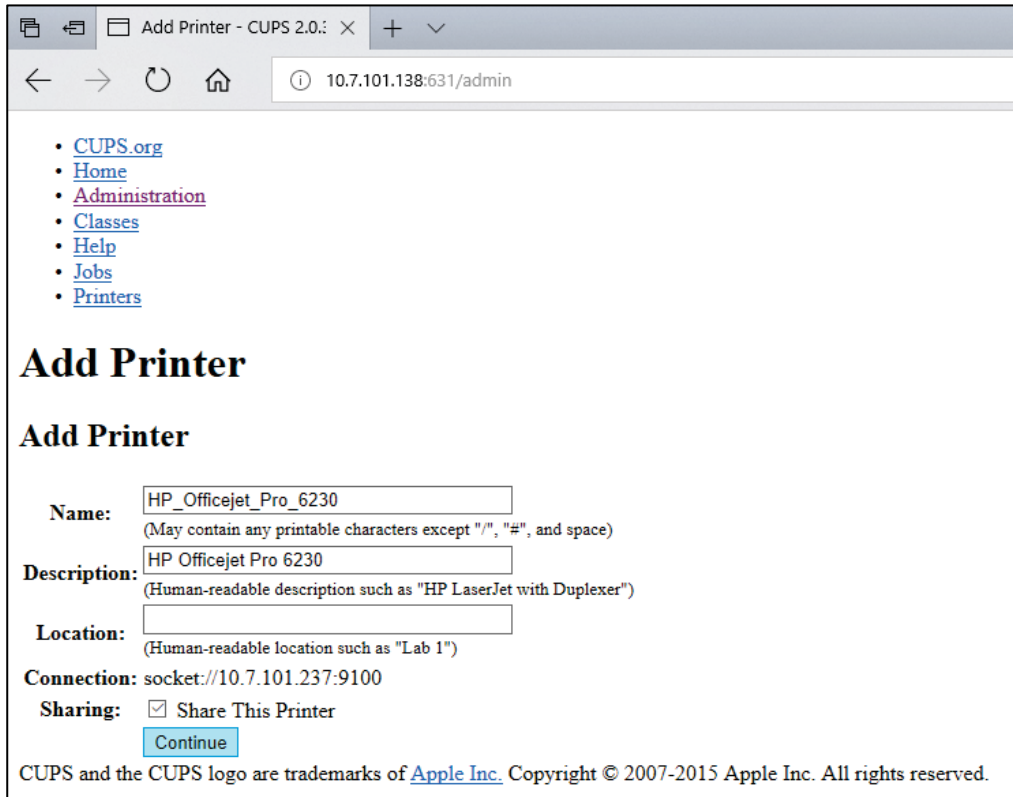

Figure 79. Add printer screen.
5. Select **Share this printer** and press **Continue** (Figure 79, next page).